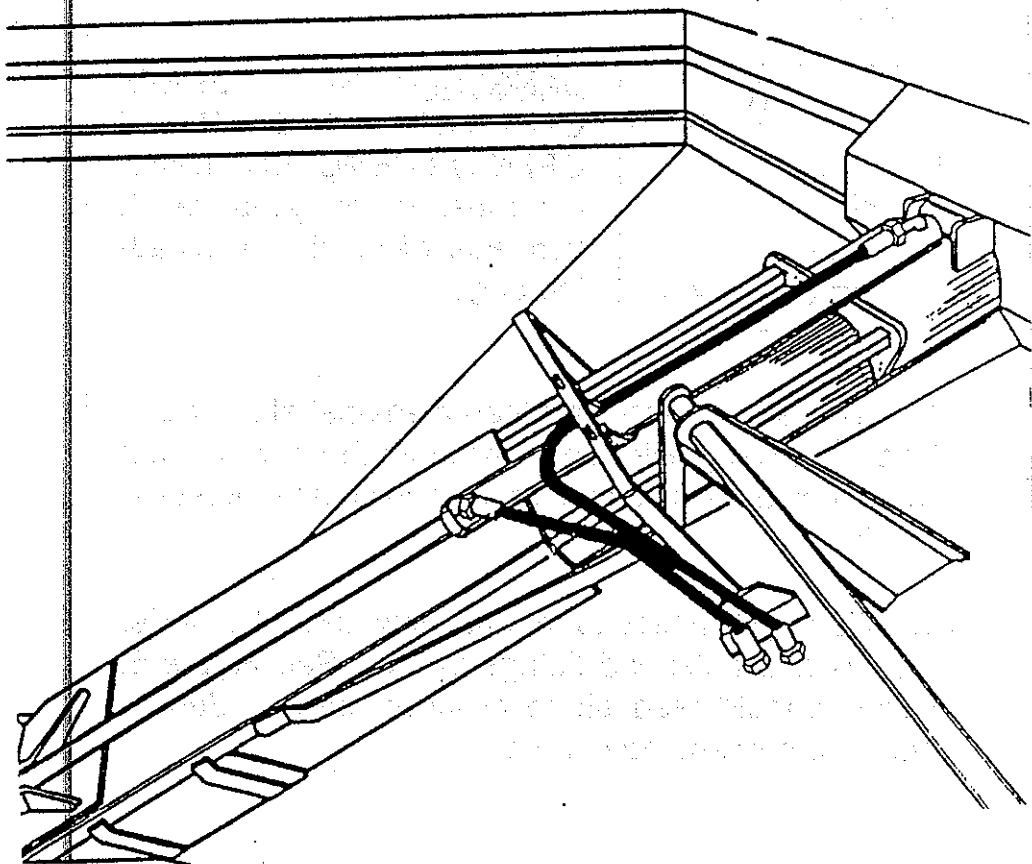

FIGURE 6: FLOW CONTROL CYLINDER HOSES
2. Attach 1/4" hoses to internal flow control cylinder elbows and bulkhead fittings in tub. See Figure 6. Hoses should feed along cylinder barrel. Secure hoses to prevent movement.